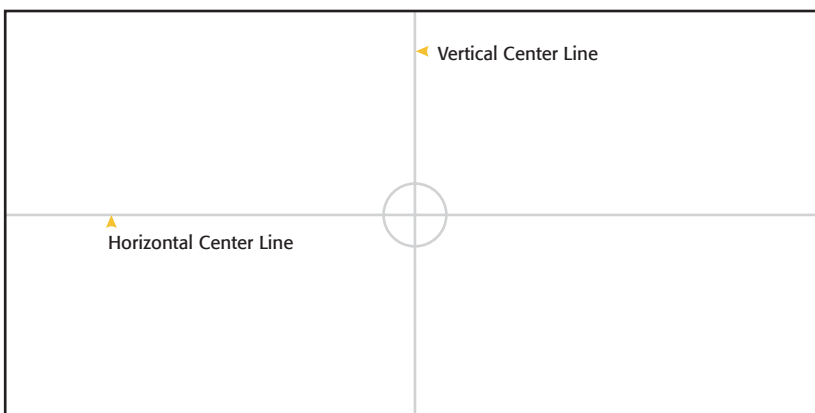

Figure 1
- Locate, measure and chalk line the vertical and horizontal center lines in the room. **(Fig. 1).**